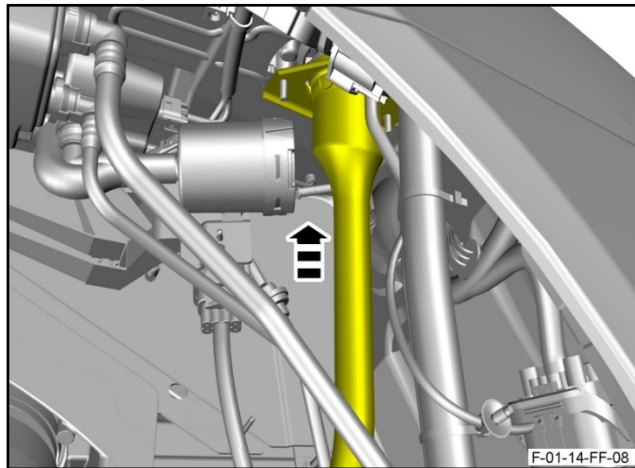

Figure 10
24. Move the fuel filler neck into position (refer to Figure 10).